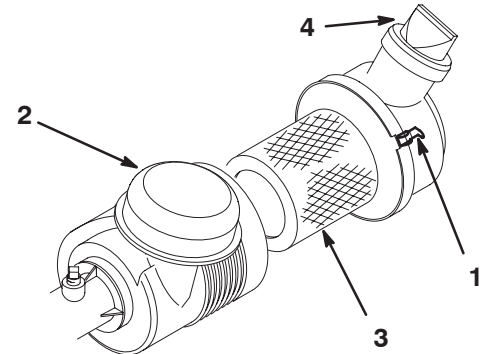

Figure 31
Check the air cleaner body for damage that could cause an air leak. Ensure that the dust cap is tightly sealed onto the air cleaner. Replace a damaged air cleaner body. Squeeze the valve (Fig. 31) before each use to clear it of dust and debris. Service the air cleaner filter every 100 hours.
3. Loosen the air cleaner strap that secures the air cleaner cover to the air cleaner body (Fig. 31) and separate the cover from the body.
3. Install the cover with the valve pointing down and secure the straps (Fig. 31).